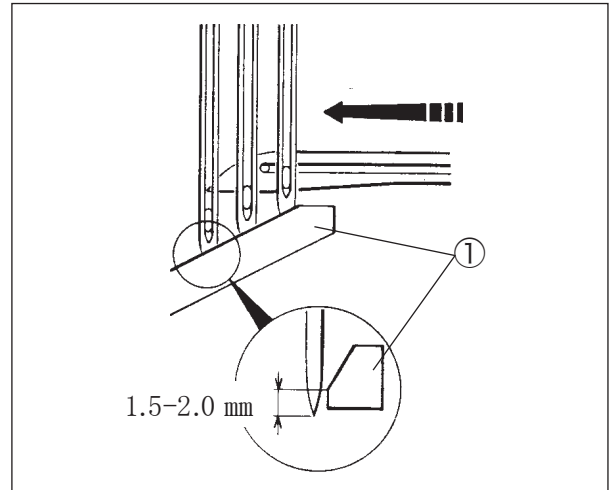

Fig. 6-28
- (2) Turn the handwheel clockwise until the looper tip comes to the center of the left needle. Adjust the height of the needle guard (front) ① so that the corner of the needle guard (front) ① is 1.5 to 2.0 mm above the needle tips. (Fig. 6-28)